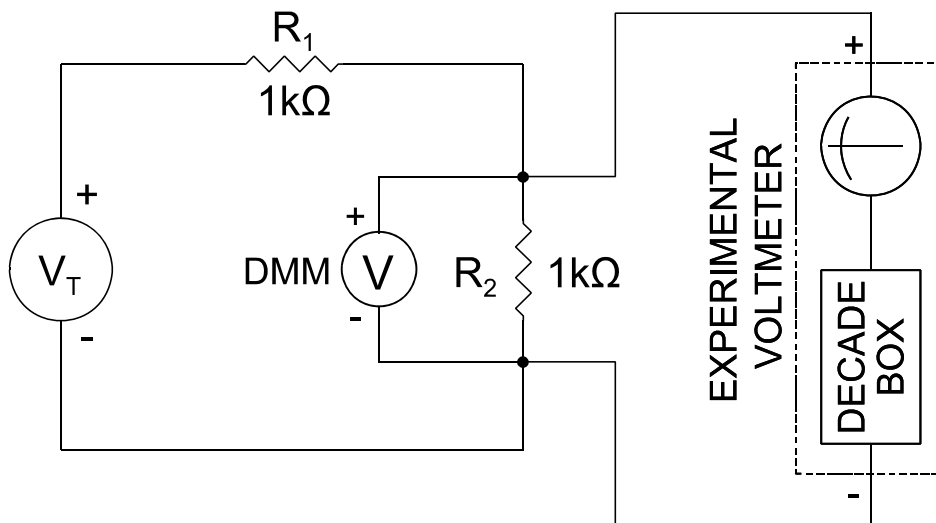

Figure 8-10
- B4. Use your experimental voltmeter to measure the voltage drop across R_2 as shown in Figure 8-10. Record the DMM reading in Table 8-4.